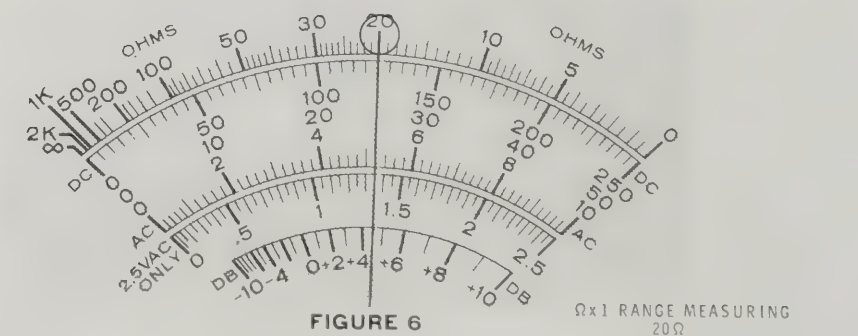

FIGURE 6
**$\Omega \times 1$  RANGE** — Read the OHMS scale directly. For example, a reading of 20 would indicate a measurement of 20  $\Omega$  as shown in Figure 6 (fold-out from Page 27).